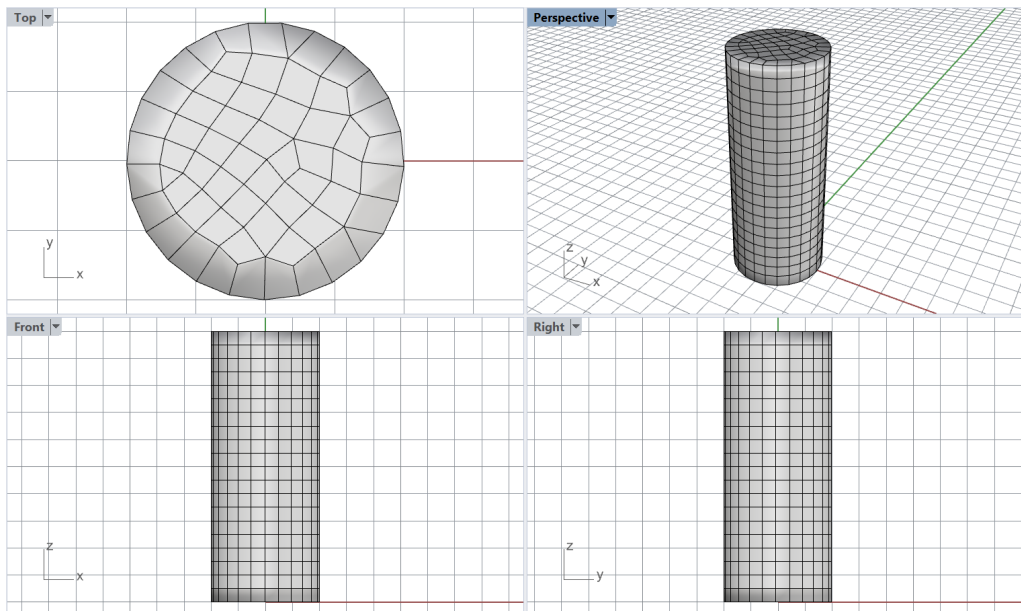
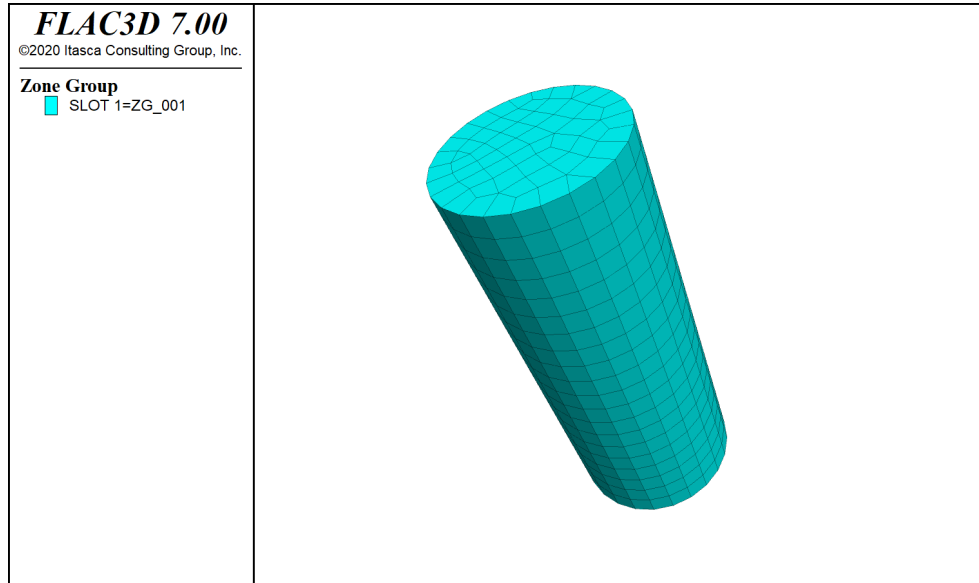

Figure 3: Quad-dominant surface mesh generated by **\_GSurf**.
Figure 4: Volume mesh of cylinder imported into *FLAC3D*.
7. Select the surface mesh and type **\_GSurf** or click on the  icon in the *Griddle* toolbar to remesh the initial triangular mesh. Select **Mode = QuadDom**, **MinEdgeLength = 0.5**, **MaxEdgeLength = 0.5** and keep all other parameters at the default values. The resulting mesh is shown in Figure 3.
default settings and press **Enter** twice. After the **Save As** dialog appears, type a desired name for the output file. **GVol** will generate a conformal hex-dominant volume mesh and output it using the *FLAC3D* binary format (the default format) to the selected file. This file can be imported into *FLAC3D* using *FLAC3D*'s **File** → **Grid** → **Import from FLAC3D ...** option (Figure 4).
Although the mesh in Figure 3 and Figure 4 may resemble a structured mesh or a pure hexahedral mesh, the **GVol** output log file reports that the output mesh contains: